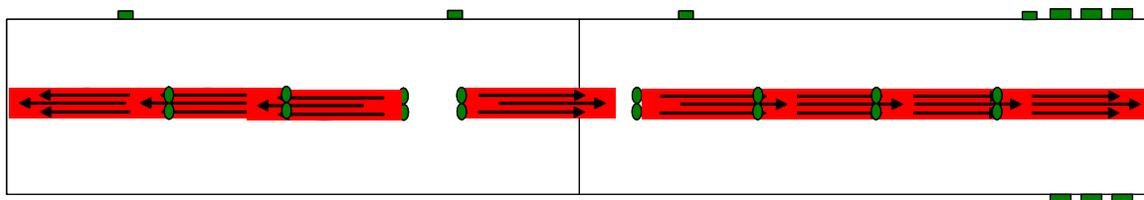

Figure 2. 1/15 hp circulation fans in a 50' X 500' house (Option A).
- 3) Due to the increased volume of 500' X 50' houses it is best to increase the total number of circulation fans to eight, four in the brooding end and four on the nonbrooding end. The four fans on the brooding end can be installed in a couple of different ways. If a producer feels their tunnel curtain area tends to run very cool then three fans approximately 55' on center should be installed blowing towards the tunnel curtain end wall (Figure 2). The fourth fan should be positioned 55' from the brooding curtain blowing towards the brooding curtain. If a producer feels the tunnel curtain area is not a major problem, they can opt to install their circulation fans so that two fans (55' on center) blow toward the tunnel curtain and the other two fans (55' on center) blow towards the brooding curtain (Figure 3).